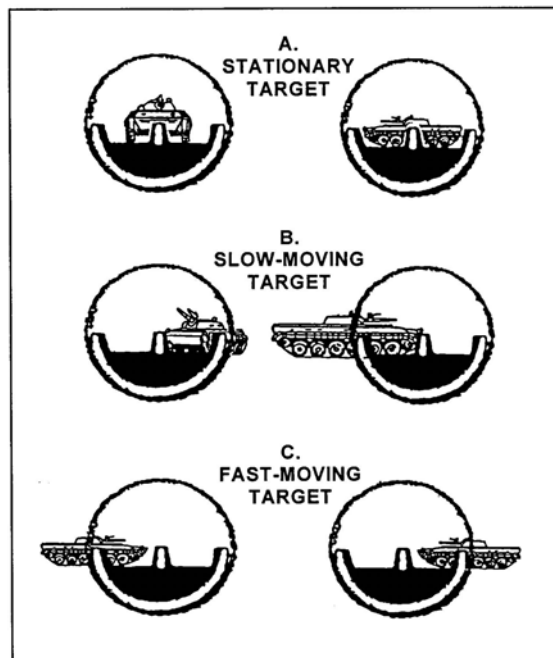

Figure 6. Correct Placement of the Front Sight Lead Posts
- (1) Stationary targets. Place the center post at the center of visible mass (A, Figure 6). This same procedure also applies for vehicles that are proceeding directly toward or away from the firer.
- (2) Slow moving targets (less than 10 miles per hour). Place the center post on the front leading edge of the vehicle (B, Figure 6). This procedure also applies to vehicles moving at an oblique (at all speeds).
- (3) Fast moving targets (more than 10 mph).
- (a) If the vehicle is moving from right to left, place the right hand lead post at the center of mass (C, Figure 6).
- (b) If the vehicle is moving from left to right, place the left hand lead post at the center of mass (C, Figure 6).